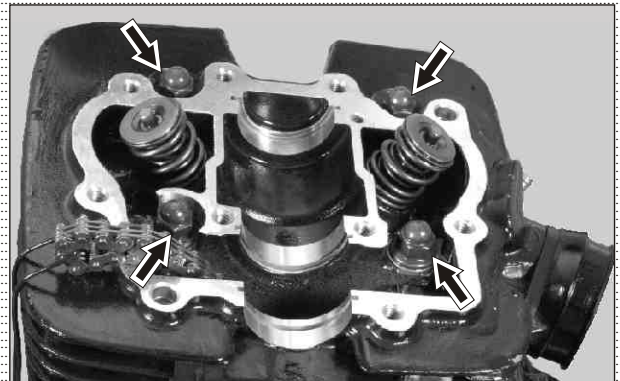

Fig. 3.80
- Remove domed nut with flange (M8 - 4 nos) from the head complete cylinder mounting, in a diagonal sequence. (Fig. 3.80)